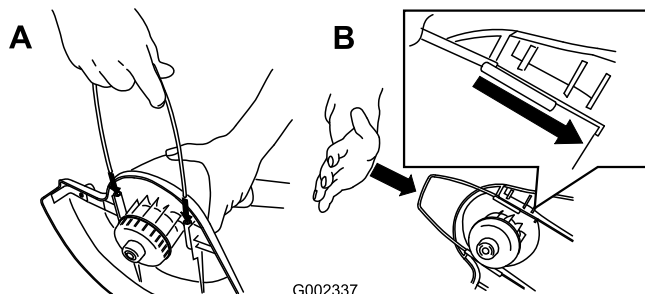

Figure 3
4. Install the metal wire guide (Figure 3) (model 51348 only).